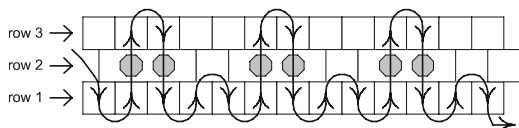

Fig. 3
- Bring the needle up (from the bottom) the bead on the first row, pick up one support bead, and then bring the needle up (from the bottom) the bead in the same column on the third row (Fig. 3).
Warning: Be sure the total number of beads in the row that the support beads are attached to is evenly divisible by the total number of beads in each support bead section. A support bead section consists of the two support beads plus the number of beads skipped. For the sample in Figure 3 that would be 4 beads (the two for the support beads and the two skipped).